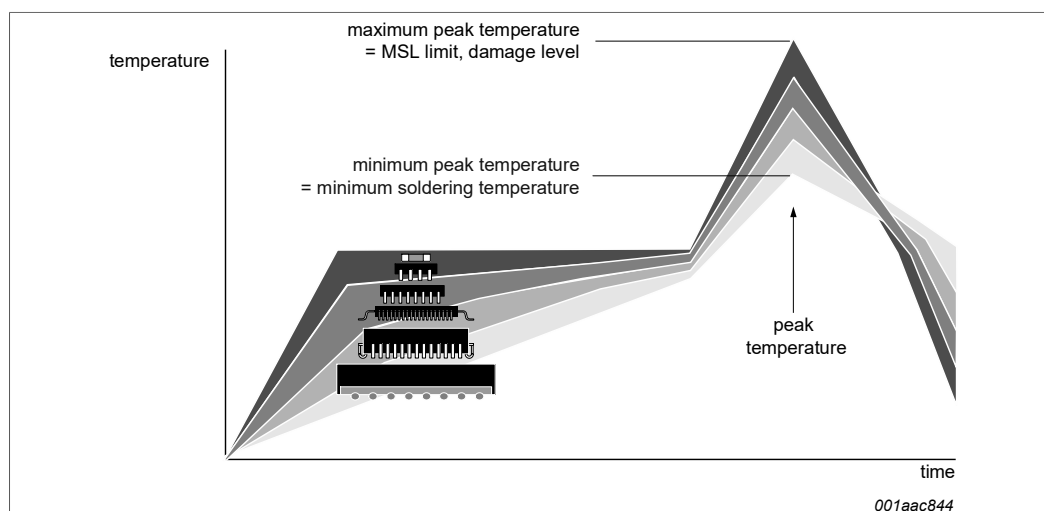

Figure 7. Temperature profiles for large and small components
- Lead-free versus SnPb soldering; note that a lead-free reflow process usually leads to higher minimum peak temperatures (see Figure 7) than a SnPb process, thus reducing the process window
Studies have shown that small packages reach higher temperatures during reflow soldering, see Figure 7.